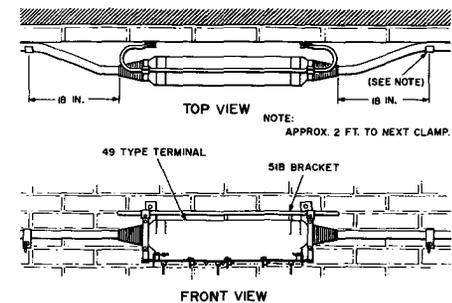

Fig. 7—Typical Bracket and 49-Type Terminal Mounting
4.05 Figure 7 illustrates a typical mounting of the 49-type terminal.